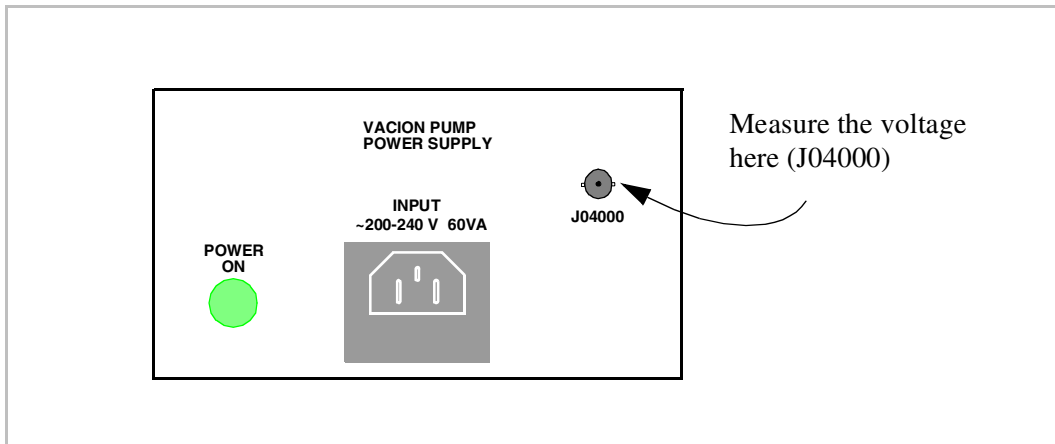

Figure 13 Vacion Power Supply
3. **Vacion™ Power Supply Voltage Check** — Use a voltmeter and measure the Vacion Power Supply at test point J04000 on the power supply. It is located under the main unit in the rear (see Figure 13). Measure this at the BNC connector on the power supply. The reading may be as high as 3 volts d.c. but after warm-up (~1/2 hour) it should read in the 20 - 50 millivolt range and be continuing to drop slowly.
- a. Use a voltmeter to recheck the Vacion Power Supply at test point J04000. (Figure 13 on page 27) The reading should now be less than 20 mv. If it is not, or has risen since your last reading, there is a problem--do not bring up X-Rays. Refer to the online Service Guide (N7200-90041) for troubleshooting.